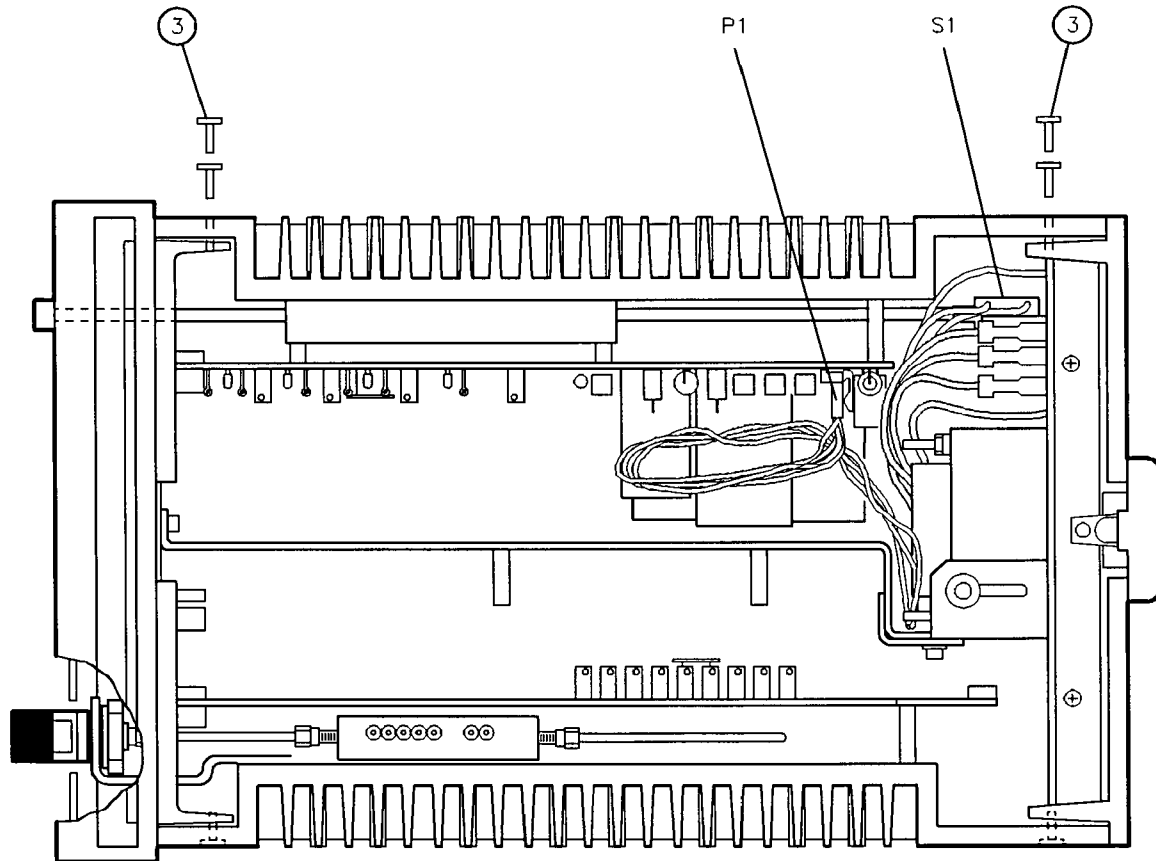

Figure 6-8. Removing the Power Supply Assembly
1. Refer to Figure 6-8.
3. Remove the four screws that attach the side casting to the front and rear castings (see ③, two places).